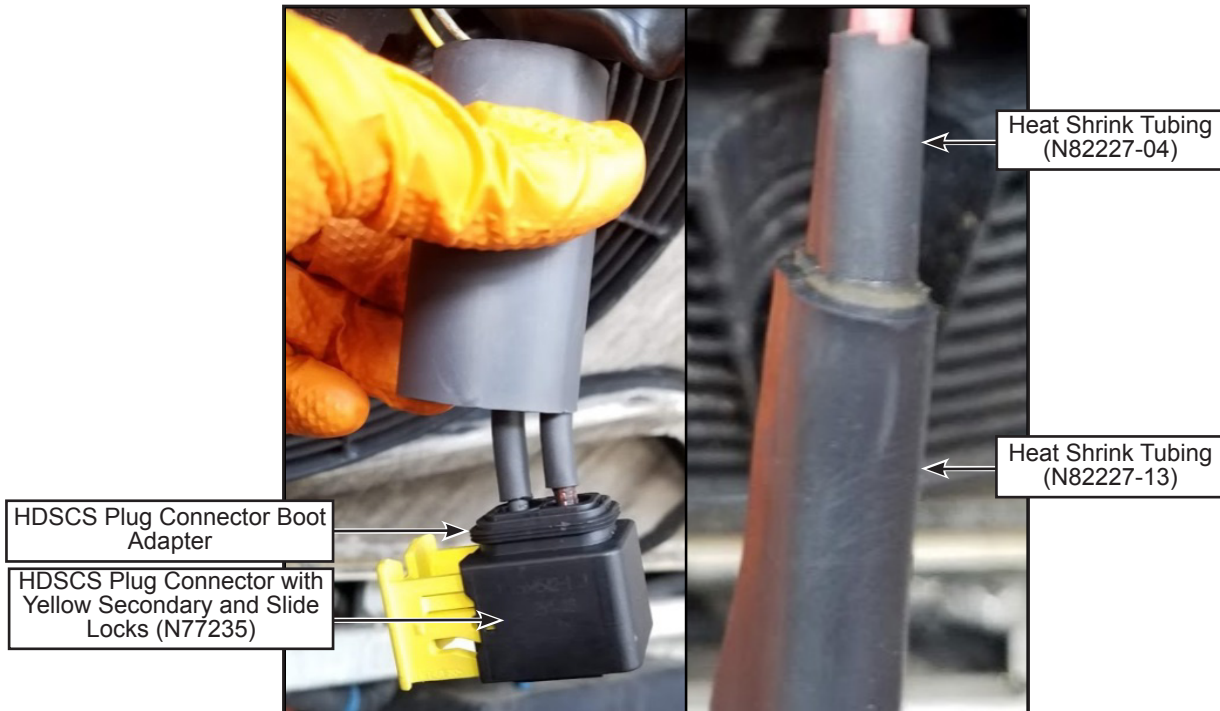

Figure 10 - Heat Shrink Tubing Installation on HDSCS Plug Connector Wiring at Fan Side
- 1.17. Insert the RED wire terminal into position 1 and the BLACK wire terminal into position 2 of the HDSCS plug connector PN N77235 (see figure 10). Make sure that the yellow secondary lock of the plug connector is completely pressed (to move it from the unlocked to the locked position) after inserting both terminals. Refer to Annex 2 for detailed instructions about terminals insertion and secondary lock.
- 1.18. Using a heat gun, apply the large heat shrink tubing PN N82227-13 starting from the boot adapter of HDSCS plug connector finishing directly over the smaller heat shrink tubes previously installed on the power wires (see figure 10). Make sure to fill any gap between the two power wires with the inner adhesive liner glue (do not apply heat shrink tubing over tape or loom).
- 1.29. Using a heat gun, apply the large heat shrink tubing PN N82227-13 starting from the boot adapter of HDSCS receptacle connector finishing directly over the smaller heat shrink tubing previously installed on the power wires (see figure 10). Make sure to fill any gap between the two power wires with the inner adhesive liner glue (do not apply heat shrink tubing over tape or loom).